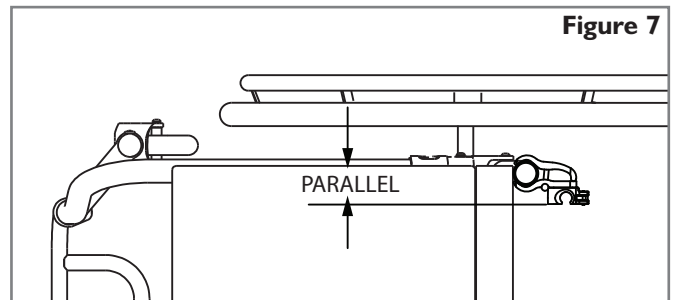

Figure 7
ATTACHING FOUR POINT HARDWARE (OPTIONAL) (FIG. 7, 8, 9)
1. Loosen the clamp screws (A) with the supplied 4mm hex key and slip the clamps around the Back Canes (B).
2. The mounting hardware should be at equal heights on each back post (Fig. 8) and parallel to the seat frame (Fig. 7).
3. Hand tighten clamp screws (A). Loosen bracket nuts (C) and Mounting Pin bolts (F) using the supplied 10mm box-end wrench until hardware can move easily in all directions